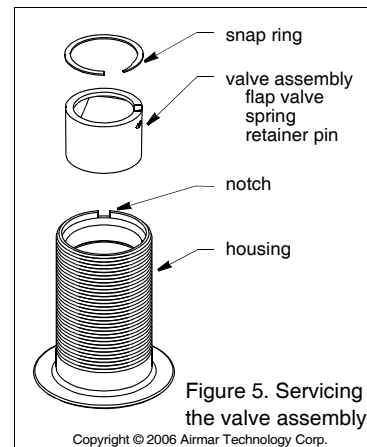

Figure 5. Servicing the valve assembly
2. Remove the snap ring from the valve assembly using a screw-driver to pry the end of the ring free. Lift the ring out (see Figure 5).
6. To reinstall the valve assembly, first reassemble the flap valve in the valve housing with the retainer pin and spring in place (see Figure 5).